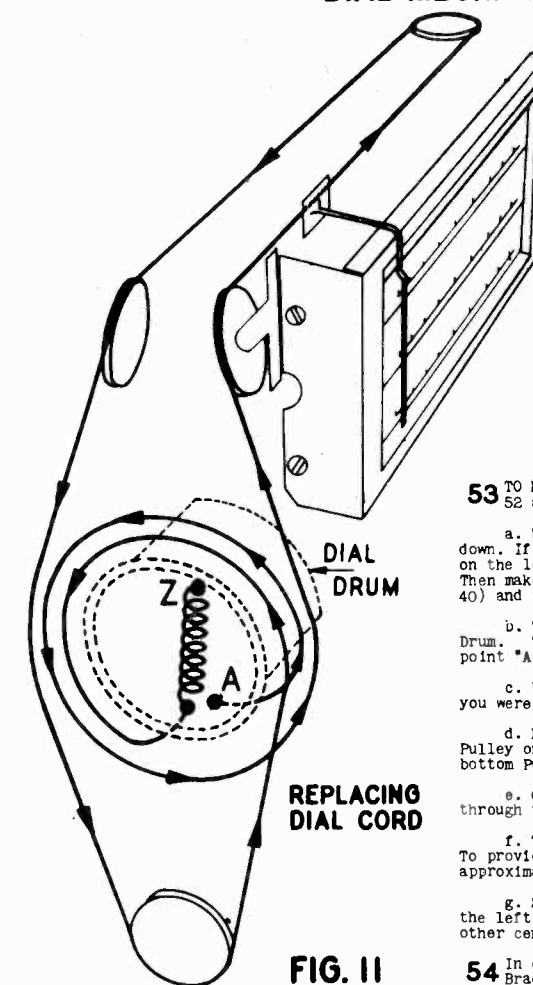

FIG. 11
53 TO REPLACE THE DIAL CORD: First check the points outlined in sections 51 and 52 above, then refer to figure 11 and proceed as follows:
b. Thread one end of the Dial Cord through the front hole of the two on the Drum. Tie a knot near the end of the inside of the Drum. This is the starting point "A", figure 11.
64 To change the Mystic Mechanism, part number 111350, only, it is necessary to remove the Dial Cord from the Drum (Figure 11), take out the four screws holding the two End Bearing Brackets to the frame, pull out the plug and take out the four screws holding the unit to the frame. The two front screws holding the unit to the frame can be reached by removing the second or third and the sixth or seventh button shells in the bottom row. If the unit has no plug on it see section 65.